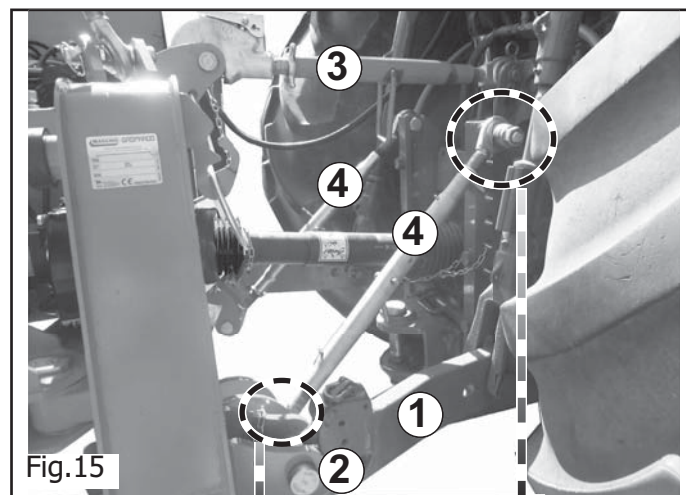
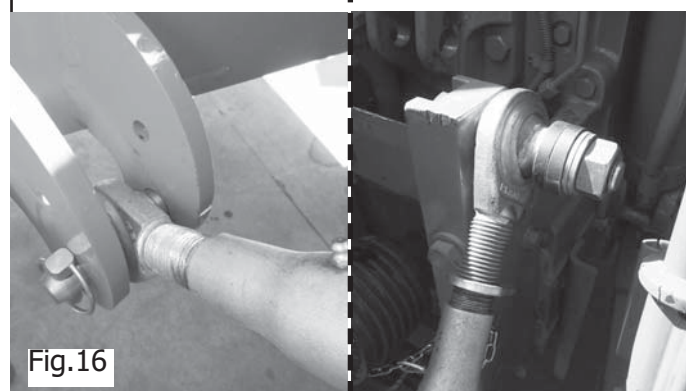

Fig.15
Fig.16
- 1) Bring the 2 arms of the tractor's hydraulic lifter (1 Fig.15) to the machine near to the couplings with pins.
- 2) Insert the pins (2 Fig.15) with relative safety elastic linchpins.
- 3) Insert the 3rd point of the stretcher (3 Fig.15) and lift the machine. Re-close the stabilising feet. Align the PTO with the tractor coupler. Adjust the stretcher (3 Fig.15) in order to move the tank parallel to the ground.
- 4) When the cutting head has been applied, check that it rests parallel to the ground. If this is not so, adjust the correct position via the 3rd point of the stretcher (3 Fig.15).
- 5) Tighten the 2 arms of the lifter (1 Fig.15) via the respective stretchers and position the machine centrally.
- 6) Stretch the stretchers (4 Fig.15-Fig.16) to the tractor's connections.
- 7) Adjust the stretchers (4 Fig.15-Fig.16) as follows: